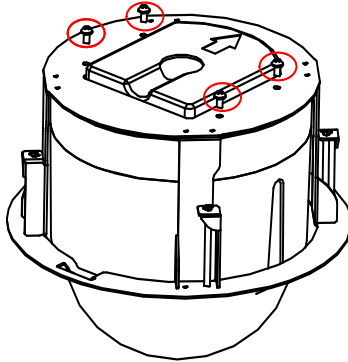

Figure 2-37 Remove the Screws
1. Loosen and remove the 4 screws as shown in Figure 2-37.